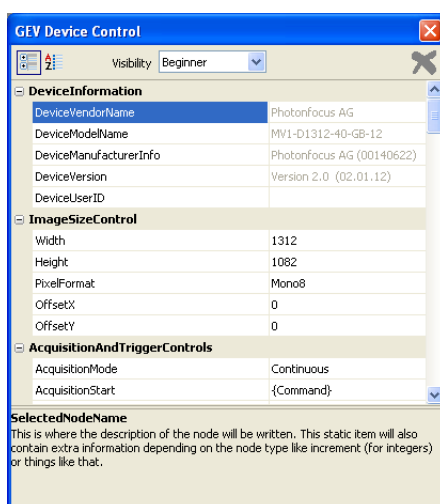

Figure 2.15: Control settings on the camera
8. Camera parameters can be modified by clicking on GEV Device control (see Fig. 2.15). The visibility option Beginner shows most the basic parameters and hides the more advanced parameters. If you don't have previous experience with Photonfocus GigE cameras, it is recommended to use Beginner level.